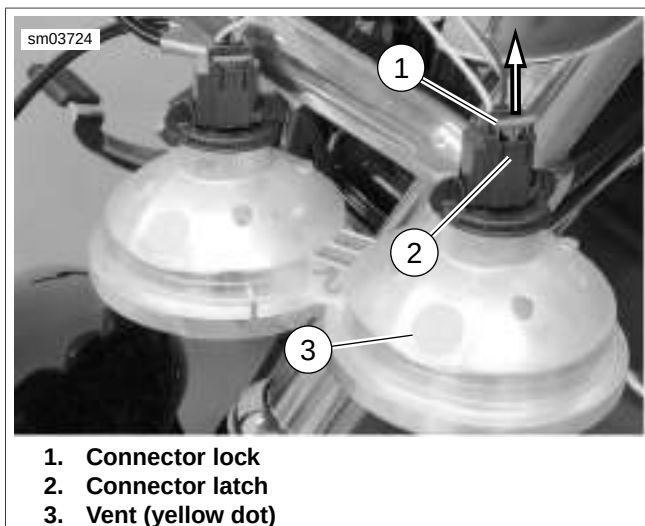
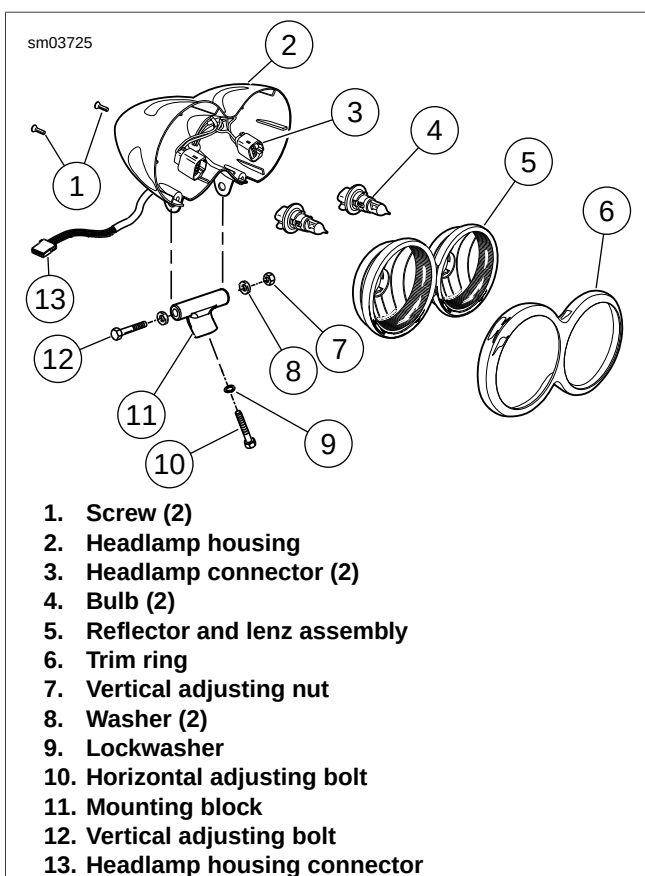

Figure 7-25. Dual Headlamp Connector
Figure 7-26. Dual Bulb Headlamp
- See Figure 7-26. Remove two screws (1) and remove trim ring (6).
- Pull reflector assembly (5) away from the headlight housing (2).
- See Figure 7-25. Raise latch lock (1). Depress latch (2) and disconnect connector.
Dual Bulb Headlamp: See Figure 7-25. Ensure vents (3) (yellow dots) are UP when installing reflector assembly in housing.
1. Loosen fuel tank to gain access to the headlamp harness connector (13). See 4.6 FUEL TANK.
2. See Figure 7-24 or Figure 7-26. Separate connector (13) [38].
3. Remove bolt (12) nut (7) and washers (8, 14).
1. See Figure 7-24 or Figure 7-26. Attach headlamp assembly to mount (11) using bolt (12) nut (7) and washers (8, 14).
2. Tighten bolt (10) to 25-30 ft-lbs (33.9-40.7 Nm).